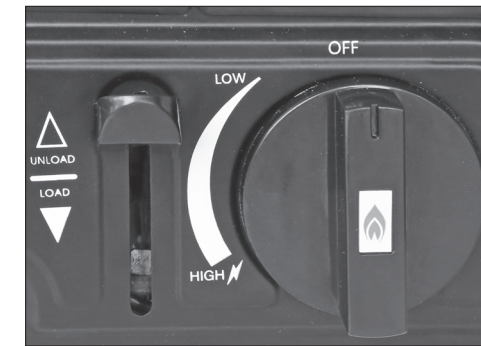

Fig. 1
1. Turn the Ignition Knob to 'OFF' and set the Cartridge Lever to 'UNLOAD' (Fig. 1).